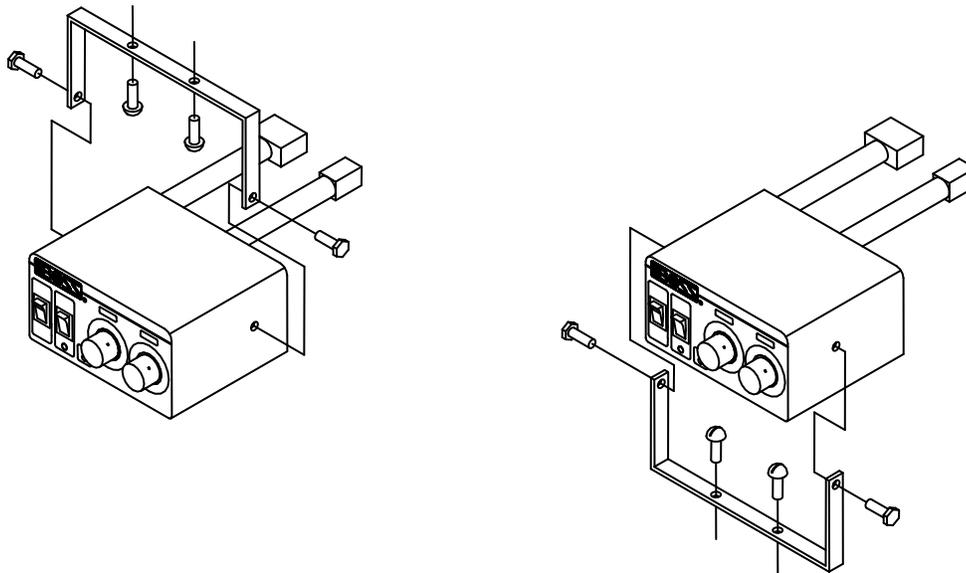

Figure 17. In-Cab Controller Installation Procedure
2. The controller can be mounted either above or below the mounting bracket, refer to Figure 17. Choose the best position that will not interfere with operation of the vehicle or visibility. **DO NOT** mount in a location that an occupant could contact during a crash.